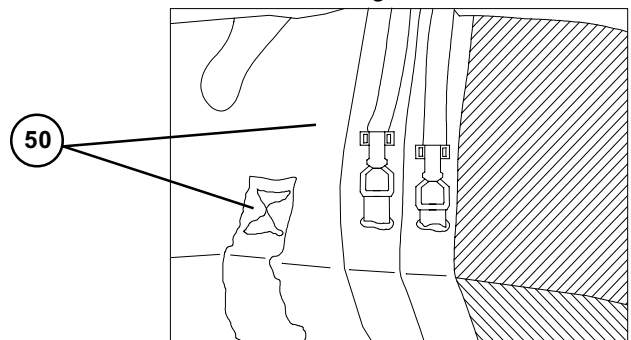

Fig. 4
4. DEBRIS BAG (Item 50) (see figure 4).